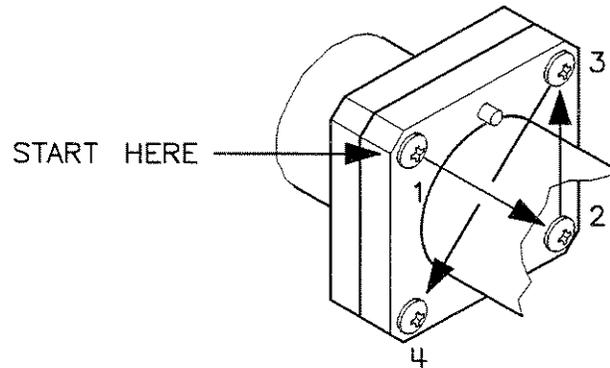

Figure 4-5.
1. In an X pattern (for equal compression), tighten all four screws (Figure 4-5). Do not over-tighten.